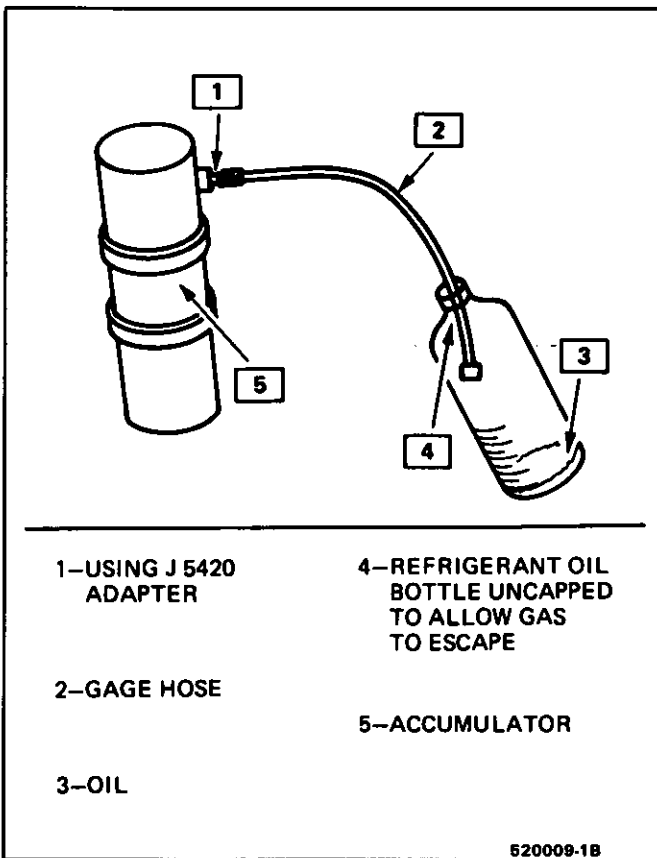

Fig. 17 Discharging the A/C System Without Charging Station
1. With ignition turned "OFF," remove protective cap from LOW-SIDE service fitting (on most models) on Accumulator and connect charging station J-23500-01 or equivalent gage set. If charging station J-23500-01 or equivalent is not being used, discharge system by slowly connecting a gage hose to low-side service fitting on accumulator and discharging into oil bottle (Fig. 17). As hose is slowly tightened down onto Schrader valve, Refrigerant-12 will begin to discharge from the system into the container. If no discharge occurs, check for missing or defective Schrader depressor in hose fitting.